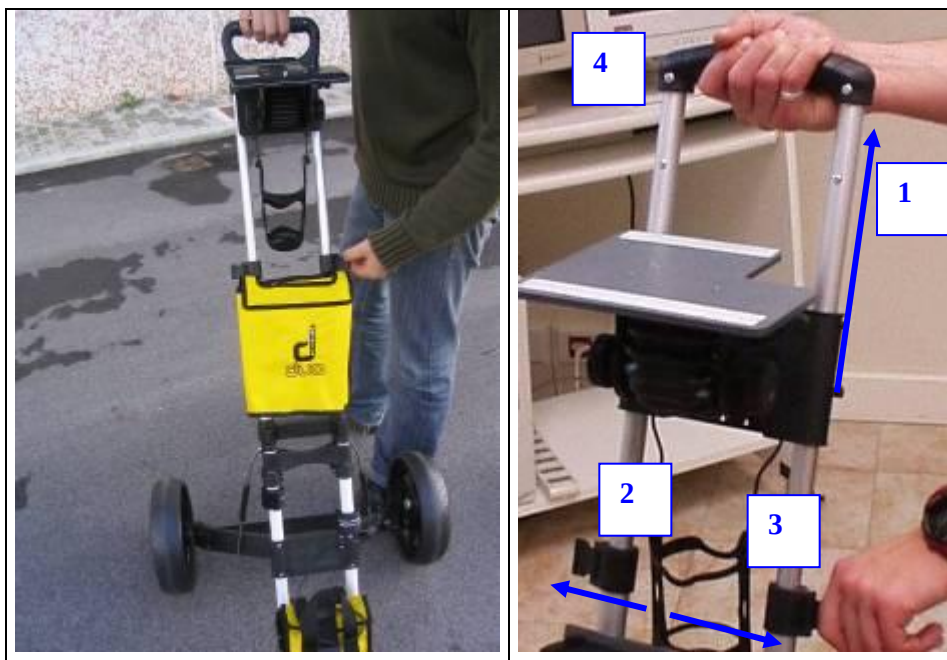

Fig. 4.3 – Upper blocking mechanism
- Unlock the two unblocking levers by rotating them outwards (2 and 3) and pull the handle (4) upwards (1), regulating it as required (Fig. 4.3).